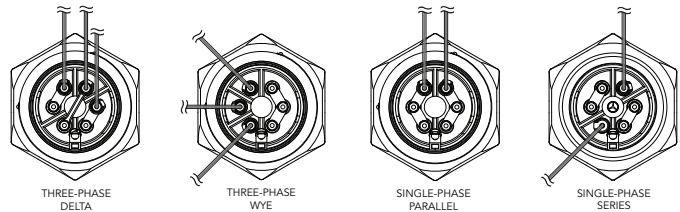

Figure 15. Heating tank element jumper configurations. Replacement elements may be a different jumper configuration.
2. Close isolation valves. Drain the fluid from the heating tank (F). See SECTION 4.2.4.
3. Remove the cap (A) from the heating element service entrance enclosure.
4. Note your unit's jumper configuration. See Figure 15. **NOTICE!** Elements are configured from the factory. Retain original jumper placement during element reassembly. Altering element configuration or jumper placement may cause heating system failure.